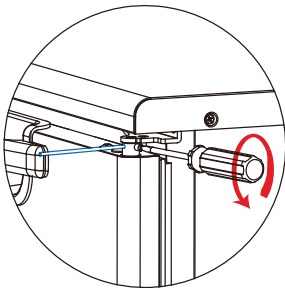

Fig 9-29
3. Turn and detach the tension pin by using a (-) screwdriver. Avoid dropping or losing the pin. (Fig 9-29)